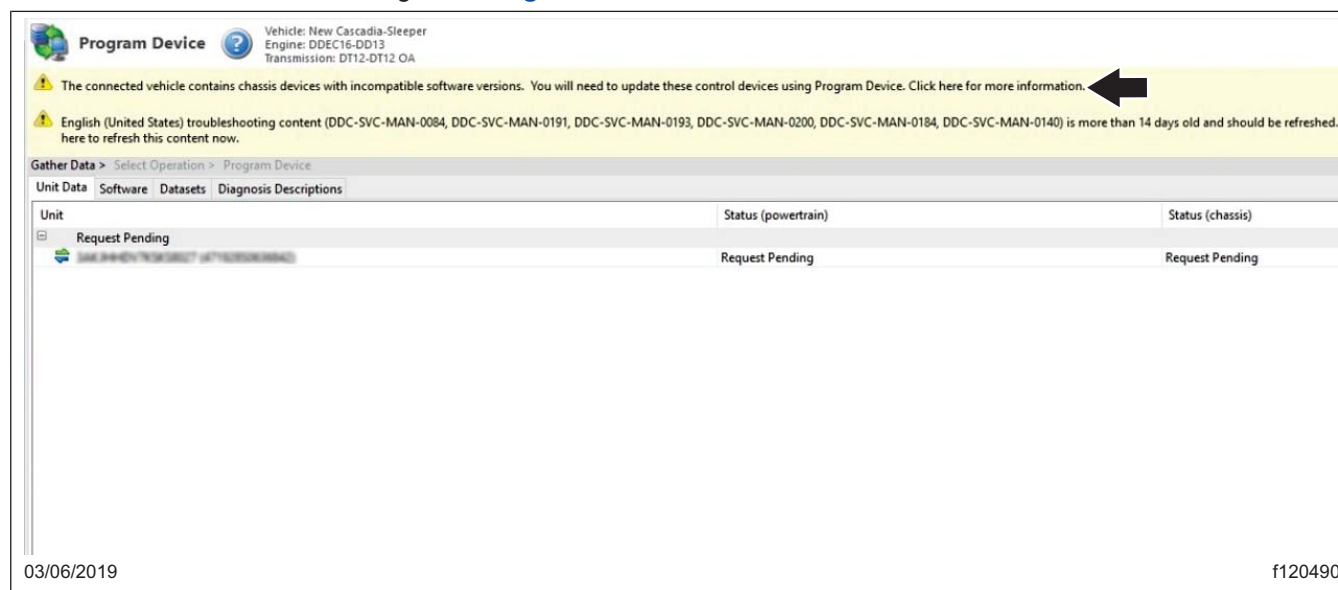

Fig. 10, Clicking on the Banner Message
14. Click on the banner message. See Fig. 10.